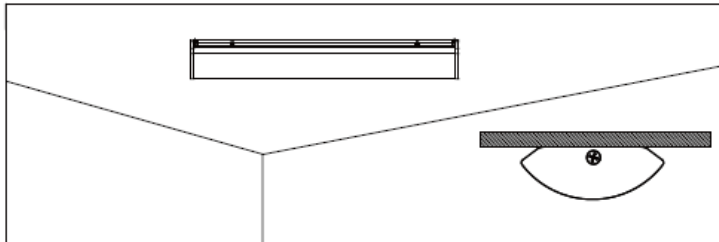

Fig. 1
2. Drill a hole into the wall and put the wall anchors inside. (Fig. 1)